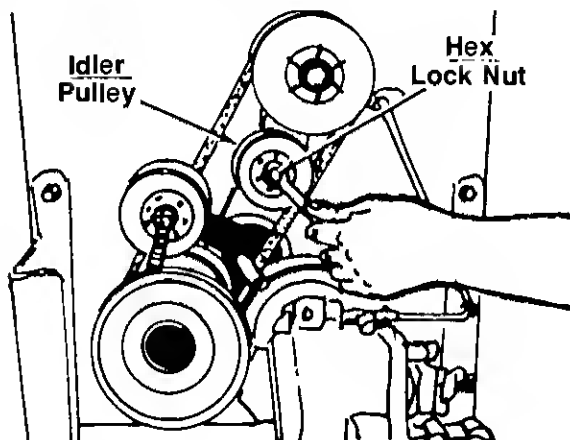

FIGURE 32.
10. Remove the idler pulley by removing the hex lock nut. See figure 32.